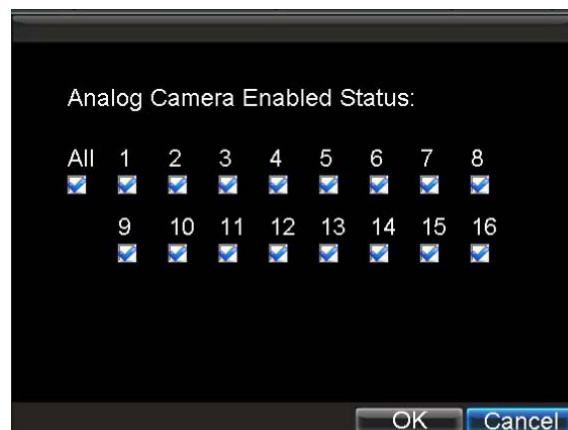

Figure 2. Camera Enabled Status Menu
3. To disable analog channels, click the Status button to enter the Camera Enabled Status menu, shown in Figure 2. Uncheck checkboxes to disable corresponding channels. Click OK to save setting. A confirmation message will appear on the screen asking you to reboot the DVR. Click Yes to reboot. After the system has rebooted, enter back into the Camera Management menu and continue with the following steps.